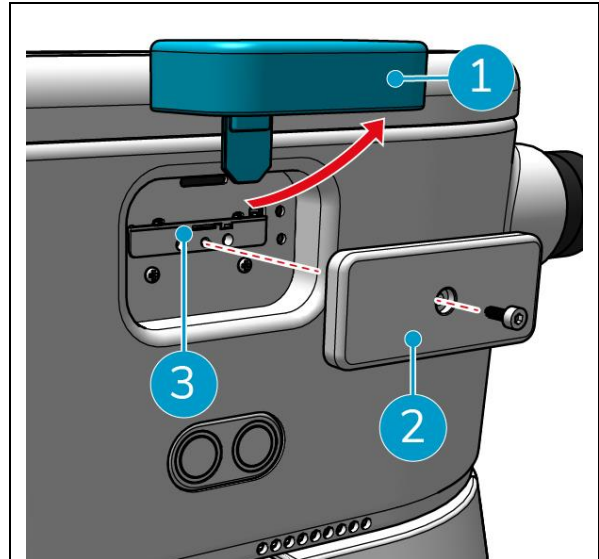

Figure 17
1. Open the blue rubber cap (Figure 17, pos. 1).
2. Remove the cover plate (Figure 17, pos. 2), using an Torx key.
3. Insert the SIM card into the SIM card slot (Figure 17, pos. 3).